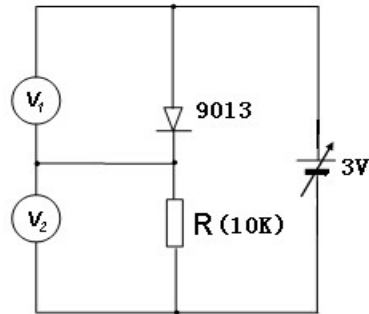
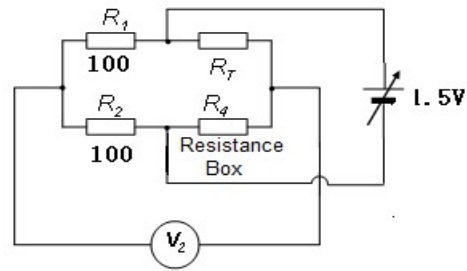
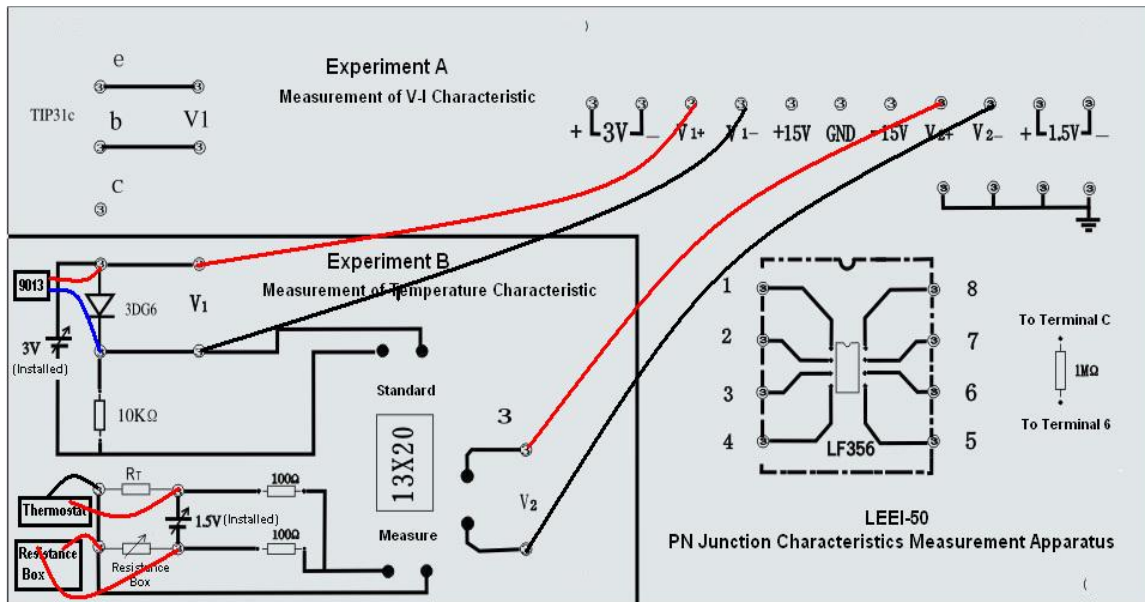

Figure 5 Experimental circuit
Figure 6 Temperature measurement circuit
Figure 7 Panel circuit connections for measuring junction voltage vs temperature
- 1) The experimental and temperature measurement circuits are shown in Figures 5 and 6, respectively. Based on Figures 5 and 6, make circuit panel connections per Figure 7. Digital voltmeter V_2 is used as the zeroing indicator of the temperature measurement bridge as well as the monitor of PN junction current through a double-pole double-throw switch. Place the C9013 transistor and the thermostat in drywells respectively.
- 2) Set the switch to “Standard”, adjust the power supply voltage (0~3V) as shown in Figure 5 to bring the voltage on resistance R at 1.000 V (i.e. $I=100 \mu\text{A}$, displayed on the middle voltmeter). Next, change the switch to “Measure” and set the temperature of the Temperature Controller to $80 \text{ }^\circ\text{C}$ to heat the PN junction. From room temperature, at every $5 \text{ }^\circ\text{C}$ - $10 \text{ }^\circ\text{C}$, measure the junction voltage (U_{be}) (i.e. V_1 , displayed on the left voltmeter) while recording the resistance value (R_T) of the platinum resistor on the electric bridge through the resistance box as shown in Figure 6 (**note: keep balancing the bridge by adjusting the resistance box in this process**). From the lookup table of temperature and platinum resistance, the actual temperature θ of the thermostat can be acquired. Finally, plot the relationship $U_{be} \sim T$. (Take at least 6 pairs of measurement points.)
- 3) Plot $U_{be} \sim T$ curve and do curve fitting using Eq. (7) to derive the temperature sensitivity (S) of the PN junction and the prohibited bandwidth E_{go} at temperature 0 K of silicon material.